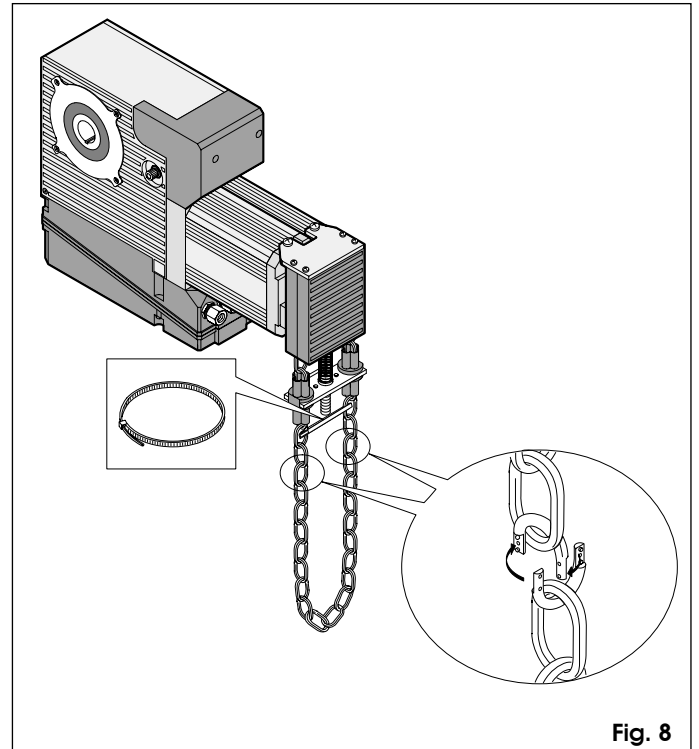

Fig. 8
Fully unwind the supplied chain and unite one of its ends to the one already inserted in the winch, using one of the supplied chain links (see figure 8.).
We advise you to create an anchoring point for the lower part of the chain so that the chain cannot interfere with transit of persons or operational means, and fix the sticker showing the opening and closing directions, so that it is clearly visible. If using the chain extension kit, replace the balancing spring (fig.10 ref.3) with the one in the kit. Furthermore, we advise you to glue together the chain links during assembly (see fig.8).